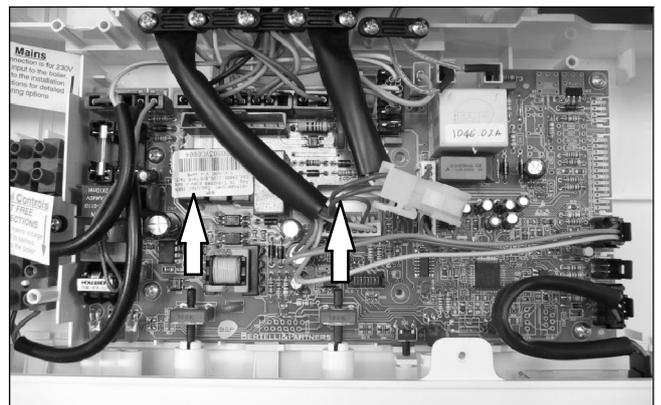

Fig. 25
- 3 Remove the spindles of the c.h. temperature and service adjustment knobs by delicately pulling them with pliers in the direction shown by the arrows in Fig. 25.